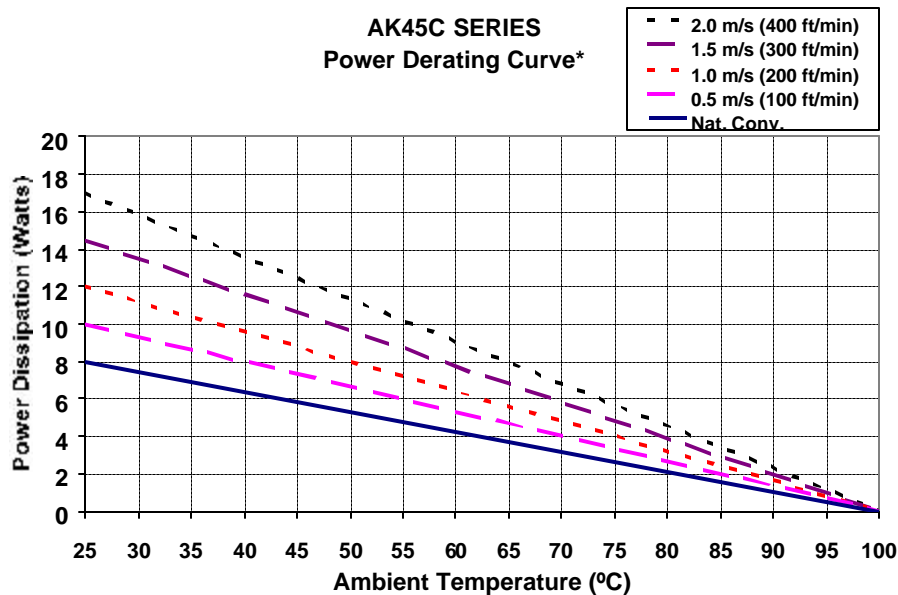

Figure 14. Forced Convection Power Derating
Increasing airflow over the converter enhances the heat transfer via convection. Figure 14 shows the maximum power that can be dissipated by the converter without exceeding the maximum case temperature versus local ambient temperature (T_A) for natural convection through 2.0 m/s (400 ft/min).
Systems in which these converters are used generate airflow rates of 0.25 m/s (50 ft/min) due to other heat dissipating components in the system. Therefore, the natural convection condition represents airflow rates of approximately 0.25 m/s (50 ft/min). Use of Figure 14 is shown in the following example.
- Determine minimum airflow (Figure 14): $v = 1.0\text{ m/s}$ (200 ft/min)